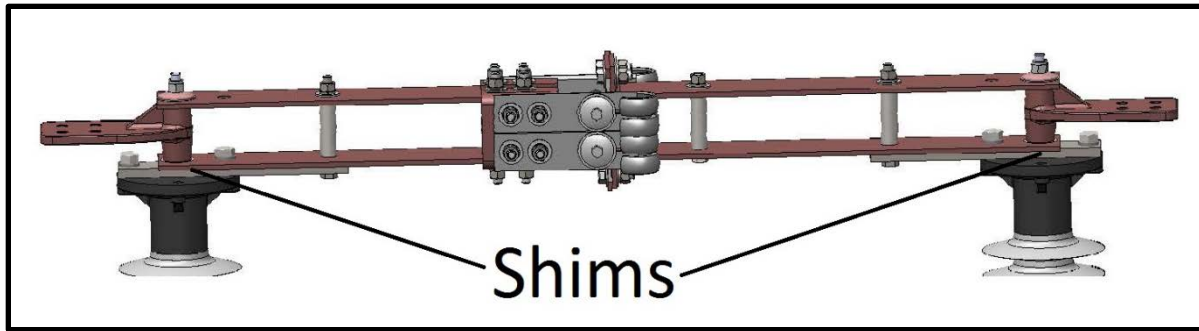

Figure 6: Blade Contact Adjustment
4. If contact adjustment is necessary, various sizes of stainless steel shims are provided for adjustment. Insert the shims between the insulator end cap and blade hinge until proper alignment is achieved. Torque the bolts to proper value (see **Table 2**). Refer to **Figure 6**.